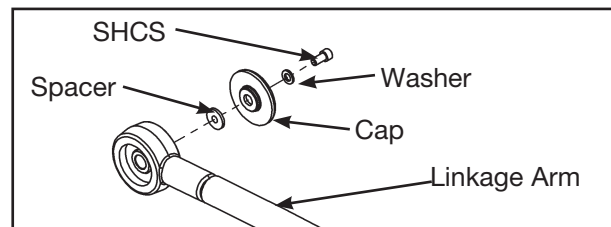

Figure 3
- A. Using a 3/16" Allen wrench, remove the SHCS, washer, cap and spacer securing the linkage arm. See Figure 3. **NOTE:** Figure 3 shows the contents of the linkage cap kit that will be installed in step 19A.
- B. Place a drop of loctite (F) to threads on SHCS and into the shaft where the SHCS will be tightened into.
- C. Using a 3/16" Allen wrench, reinstall the SHCS, washer, cap and spacer (removed in step 5A). See Figure 3